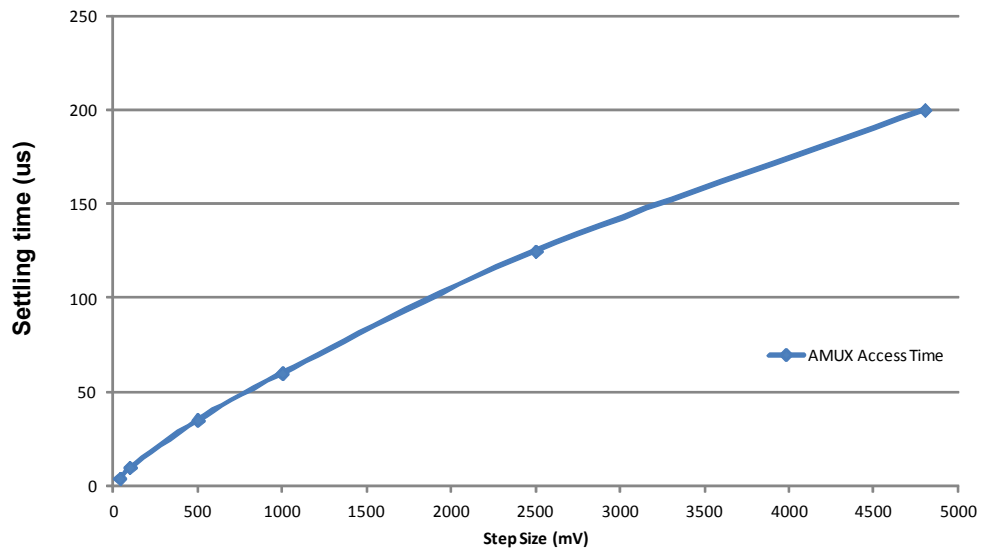

Figure 9. AMUX access time waveform
25. AMUX settling time to be within the 10 mV offset specification. $AMUX_{VALID}$ is dependent of the voltage step applied on the input SGx/SPx pin or the difference between the first and second channel selected as the multiplexed analog output. See Figure 9 for a typical AMUX access time versus voltage step waveform.